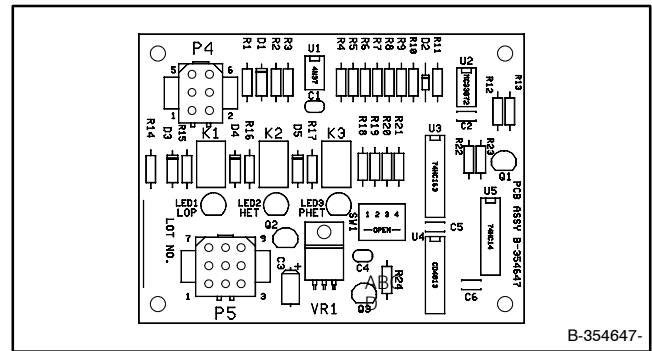
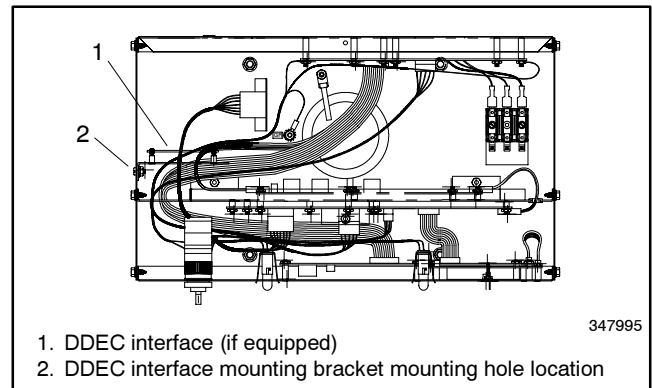

Figure 2-5 DDEC Interface Circuit Board (DIB)
Figure 2-6 Top Controller View, DDEC Interface Circuit Board Installed
5. If the unit is equipped with a DDEC interface circuit board (DIB), perform the following steps. See Figure 2-5 and Figure 2-6.